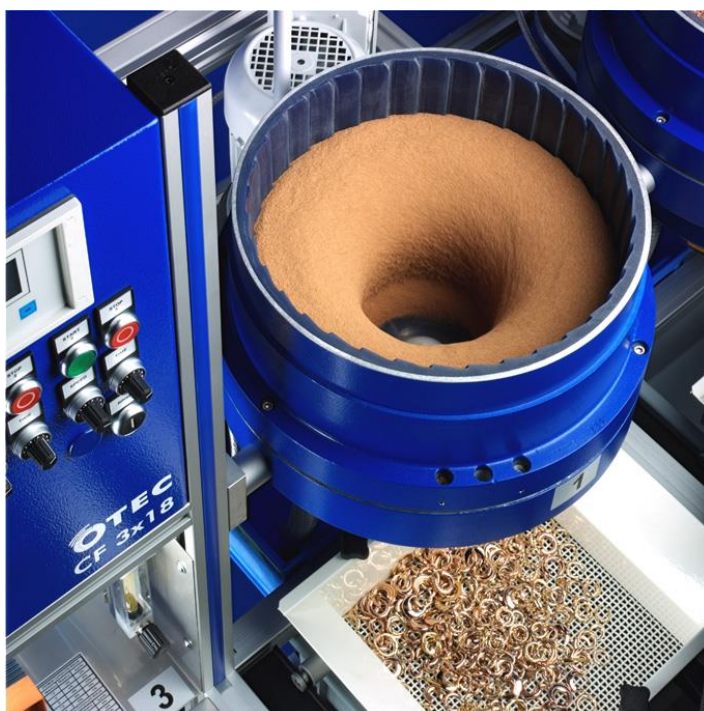

Fig. 1
- When the machine is then switched on, a toroidal vortex is created (see Fig. 1).